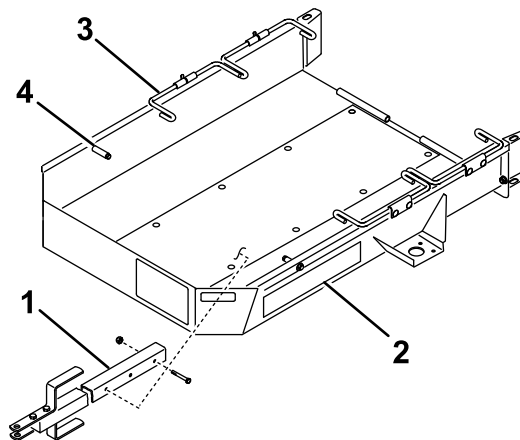

Figure 1
1. Mount the tongue assembly to the mounting bracket on the underside of the trailer bed with 2 bolts (3/8 x 2-3/4 inches) and 2 locknuts (Figure 1).
4. Move the throttle to the slowest position and **slowly** drive the machine onto the trailer until the transport wheels contact the trailer stops (Figure 1).
6. Pivot the first set of wheel rods downward behind the transport wheels (Figure 1).